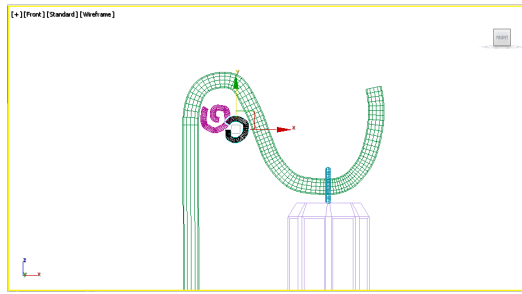

Figure 5-38 The second curve created
4. Repeat steps 1, 2, and 3 and create a second curve, as shown in Figure 5-38.